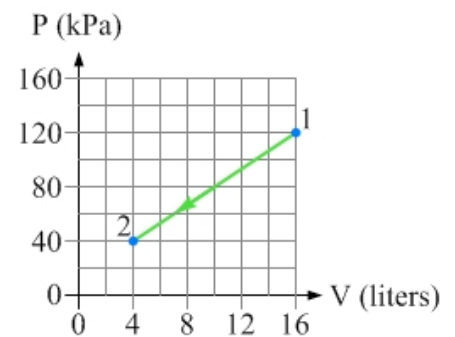

Figure 15.23: A system is taken from state 1 to state 2 by the process shown. For Exercise 14.
14. (a) How much work is done by the gas in the process shown in Figure 15.23? (b) If the gas is monatomic, what is the change in internal energy associated with the process? (c) How much heat is involved in this process? (d) Is heat transferred into the gas or transferred out of the gas?